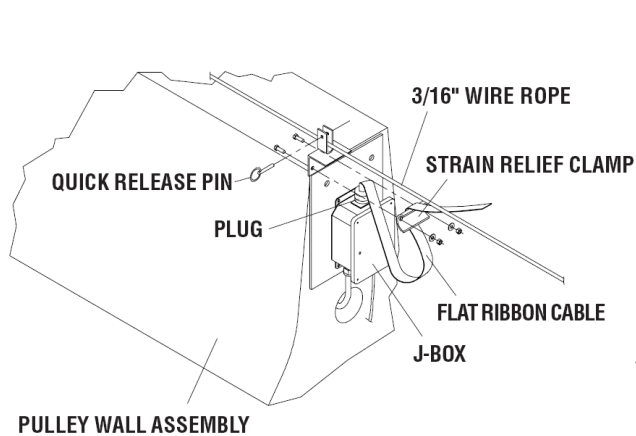

Figure 21
3) Connect the flat ribbon electrical cable in the Hook Gate Assembly to the J-box at the end of the Pulley Wall Assembly (Figure 21).